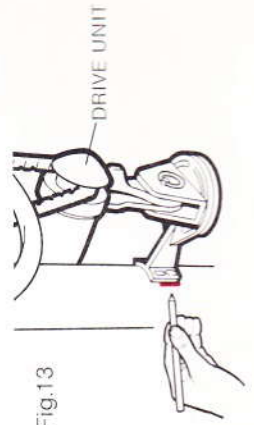

Fig.13
- Having found the correct position for the clevis carefully mark round its base to record its position. Then remove the drive unit and mark round the inside of the elongated fixing holes (Fig.13).